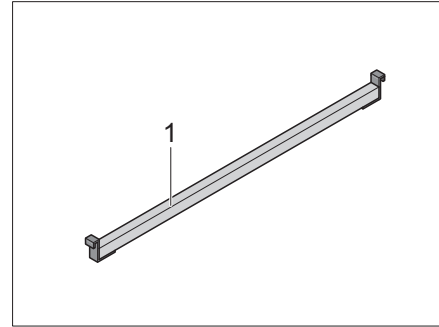
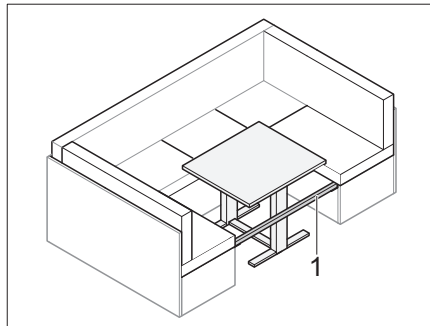

Fig. 62 Additional rail
Fig. 63 Inserted strip
- Insert additional strip (Fig. 62,1) between the benches (Fig. 63).